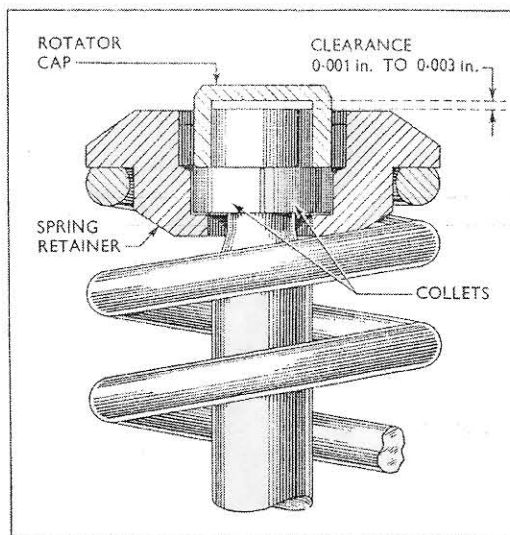

Fig. 10.
- xii Ensure the collets are seating correctly, fit the rotator caps to the exhaust valves, and ensure that there is a clearance of .001 in. (.025 mm.) to .003 in. (.076 mm.) between the end of the valve stems and the inner face of the cap (see Fig. 10).